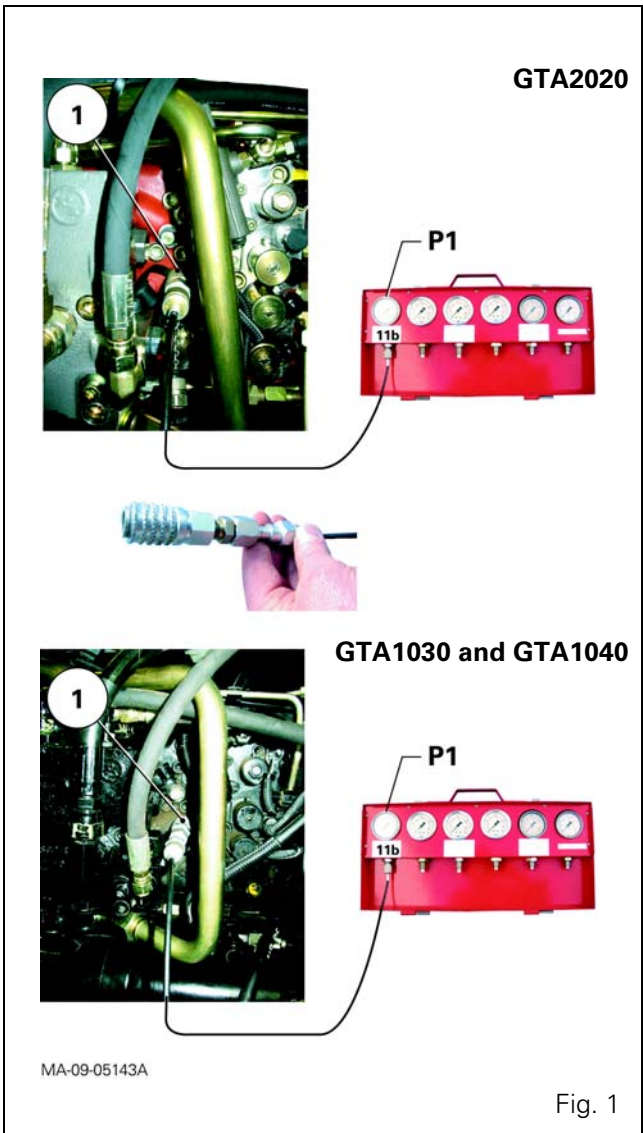
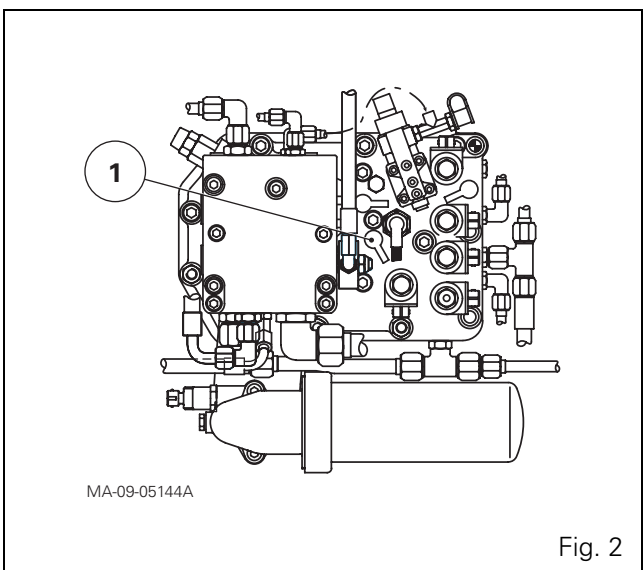

Fig. 1
Fig. 2
- Connect a pressure gauge with a capacity of approximately 11 bar to the diagnostics connector (1) located on the right-hand cover (Fig. 1 and Fig. 2).